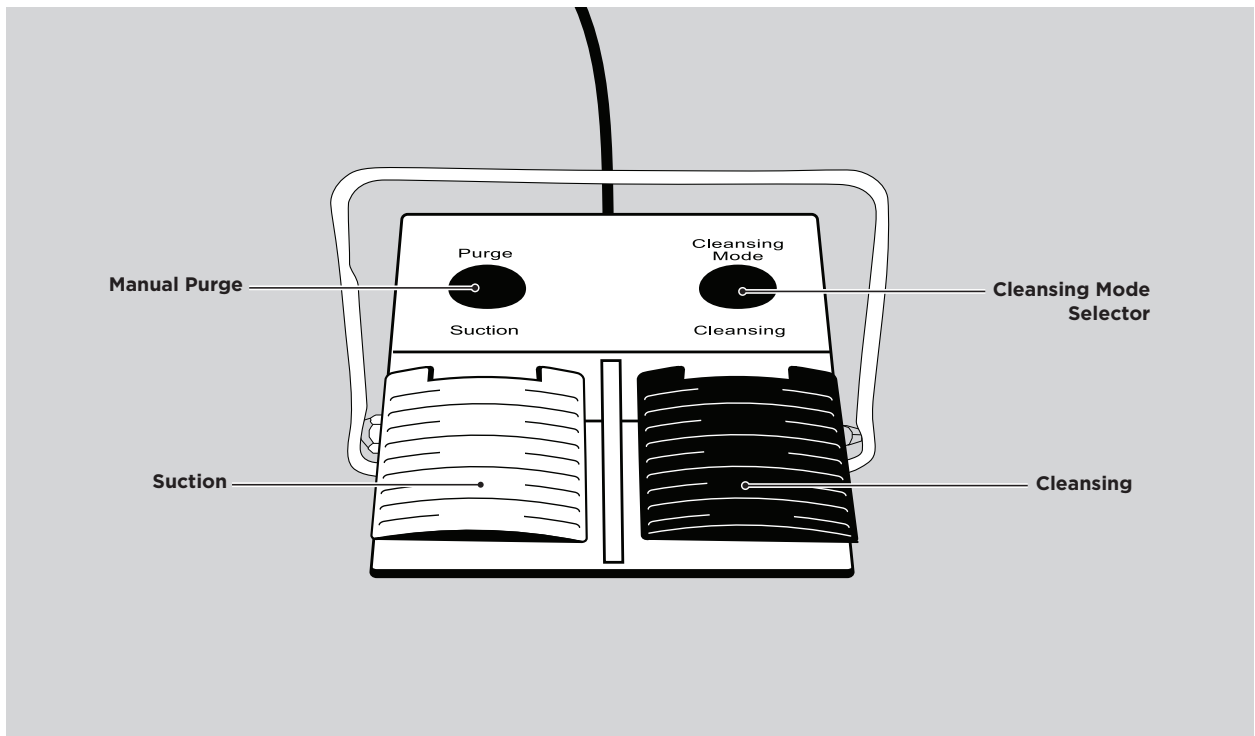

FIGURE 3: Pure-Vu Foot Pedal Unit
- Cleansing Mode Indicator - indicates the mode you are in and is activated by using the cleansing mode selector button on the Foot Pedal (shown in Figure 3). The system can be operated in three cleansing modes; low, medium (default mode) and high
The Foot Pedal allows the physician to select the operating modes during the procedure. The operating modes are as follows (Figure 3: Pure-Vu Foot Pedal Unit):
Status light turns orange (Warning Indication)	<ul style="list-style-type: none"> • Verify liquid supply (e.g. Irrigation bag) is set up properly and not empty. If empty, replace irrigation bag and press Status button. Refer to Figure 9 • Verify the main connector is fully inserted and locked (indicated by an audible click). Refer to Figure 9 • Verify the pump heads are closed properly. Refer to Figure 9 • Verify the Foot Pedal is securely attached to the back of the Workstation. Refer to Figure 2 • Verify the pedals and buttons on the Foot Pedal are not depressed. Refer to Figure 3 <p>If status light is still orange, restart Workstation by pressing the front panel power button until OFF and then pressing the same power button to turn ON again. Refer to Figure 13</p>
Foot Pedal is Not Responding	<ul style="list-style-type: none"> • Verify the Foot Pedal is securely attached to the back of the Workstation. Refer to Figure 2 • Verify that there is no object under any of the pedals of the Foot Pedal that prevents it from being depressed. Refer to Figure 3